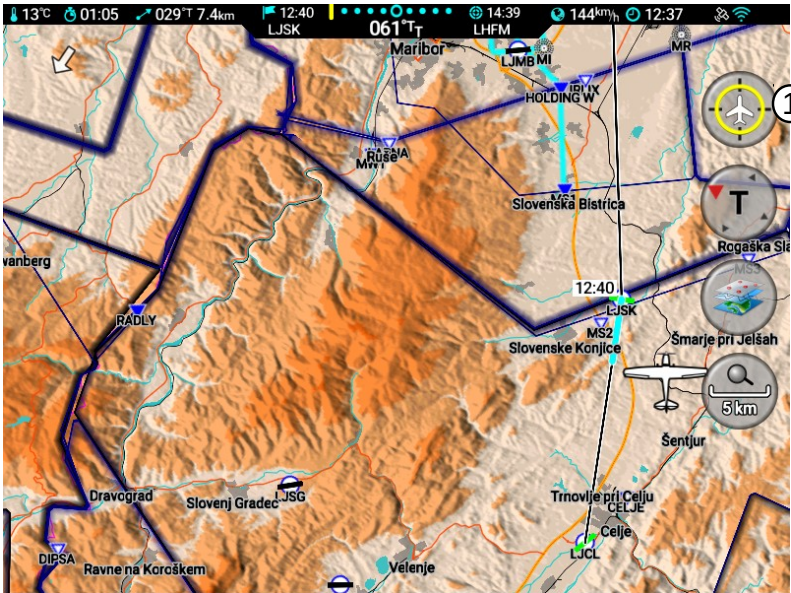

Figure 2.25: Illustration of the navigation screen in the pan mode.
A long-touch action on the map puts the map into pan mode. It also adds a home button symbol on the map and remove all unnecessary elements. Once the map is in the pan mode, it can be easily moved around. Figure 2.25 shows an example.
A touch on the home button, marked as ① on the Figure 2.25, brings back the standard navigation map.